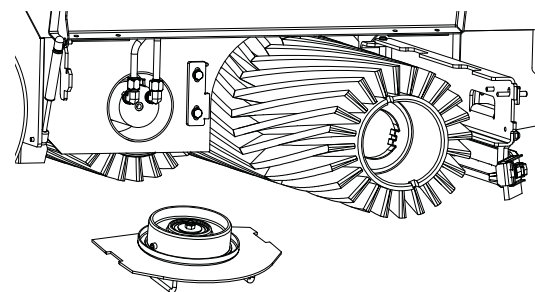

Fig. 5
6. Using the handles pull the brush idler plate away and free from the scrub deck. (See Fig. 5)
7. Pull the brush out from the scrub deck. (See Fig. 5)